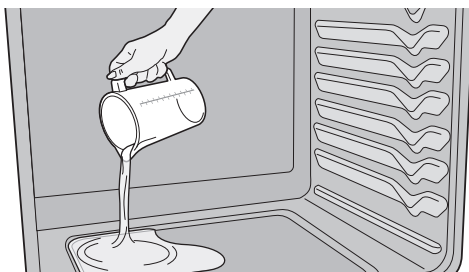

Figure 36: Add 1 cup of tap water
3. Pour 1 cup of tap water onto the oven bottom.(Figure 36) Close oven door.